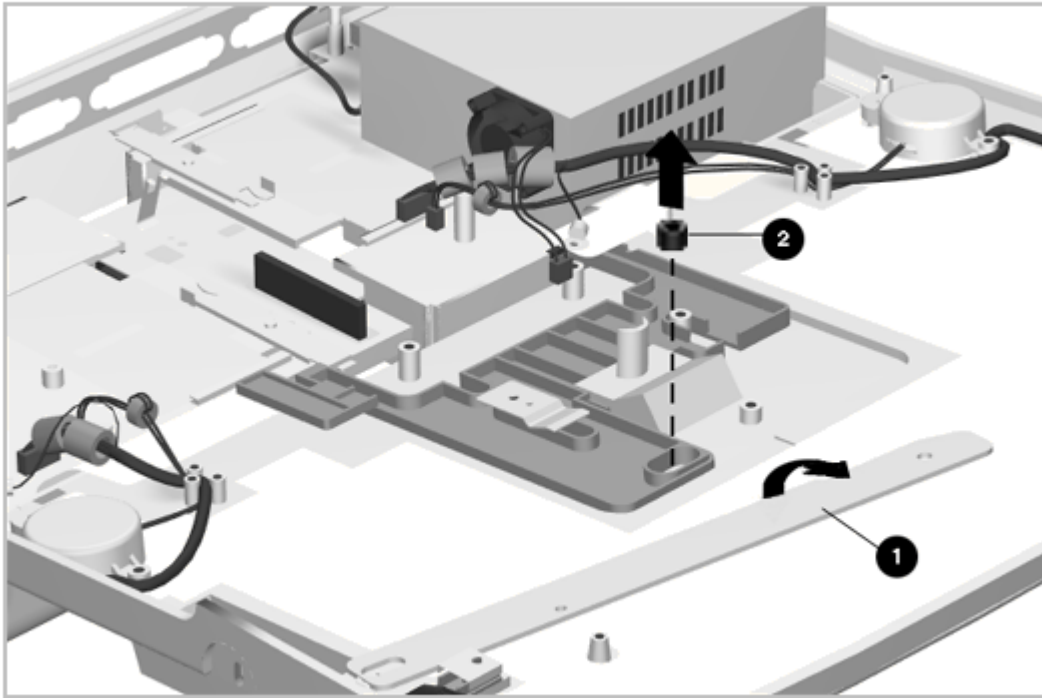

Figure 6-32. Removing the Docking Bar and Bushing
5. Lift the docking bar [1] and its bushing [2] out of the assembly (Figure 6-32).